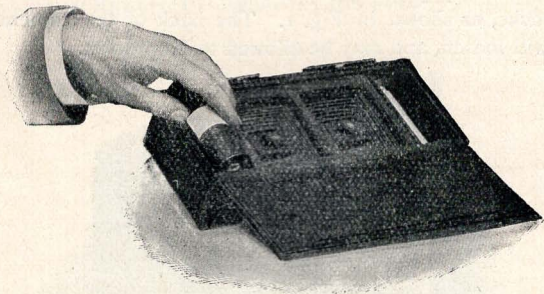

FIG. 3.
3. Drop the film cartridge into this recess as shown in Fig. 3, taking care that the top of the spool is at the top of the camera. Each cartridge is marked on the end.